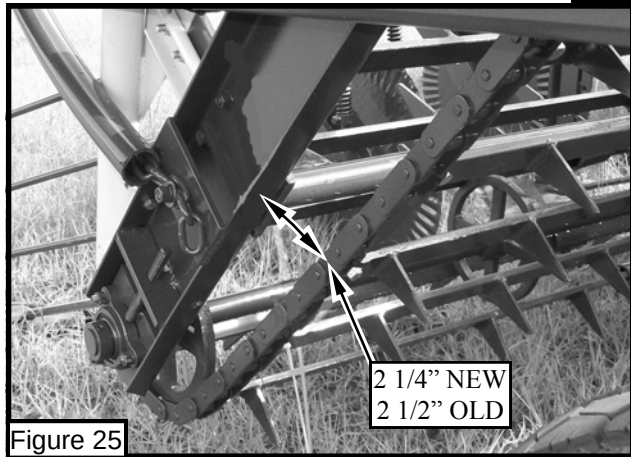
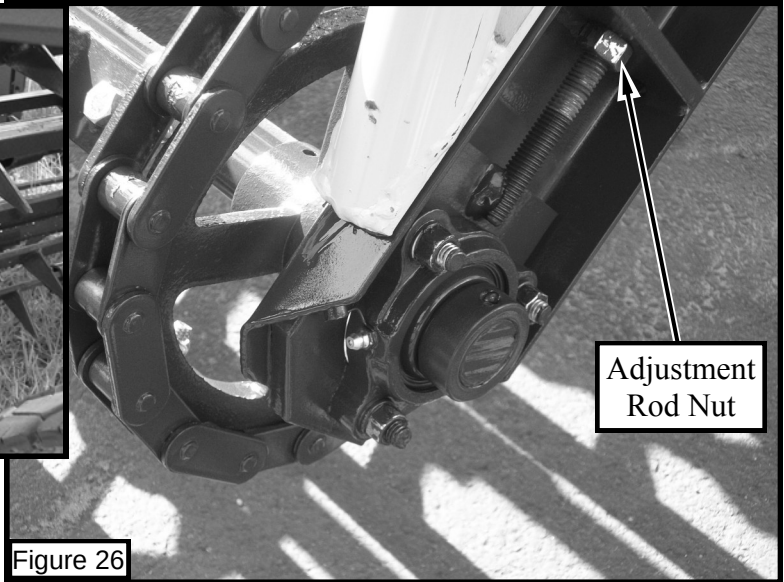

Figure 25
Figure 26
13. The adjustment rod nut is used to tighten or loosen the tension on the inverter chain. Refer to figure 26. A new chain is preset at the manufacture at approximately $2\frac{1}{4}$ ". Older chain will require a $2\frac{1}{2}$ " dimension. Slack is measured at a location just under the cross brace as shown in figure 25.